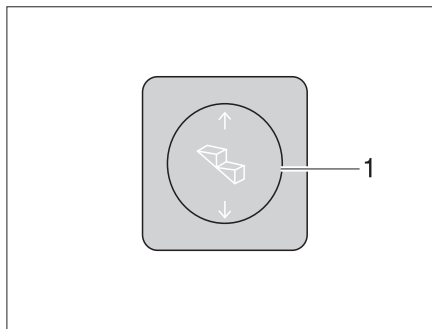

Fig. 1 Operating switch entrance step
- Press the rocker switch (Fig. 1, 1) down until the entrance step has extended completely.
- Press the rocker switch (Fig. 1, 1) up until the entrance step has retracted completely.